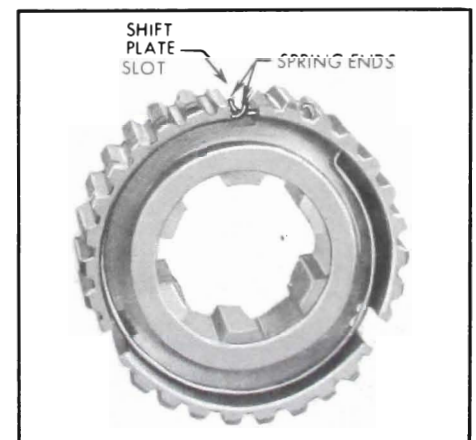

Figure 4-26—Installing Synchronizer Springs
1. install springs solidly in recesses on both ends of synchronizer hub. One end of both springs should be located in same shift plate slot so that springs will extend in opposite directions from each other. Install shift plate directly over these ends. See Figure 4-26.